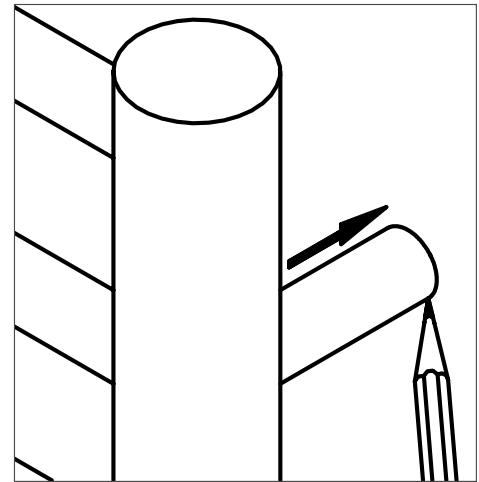

Fig 1.0
- Using a fine pencil, or by gently pressing the rail against the wall, mark the position of all four rail legs.. See fig 1.0